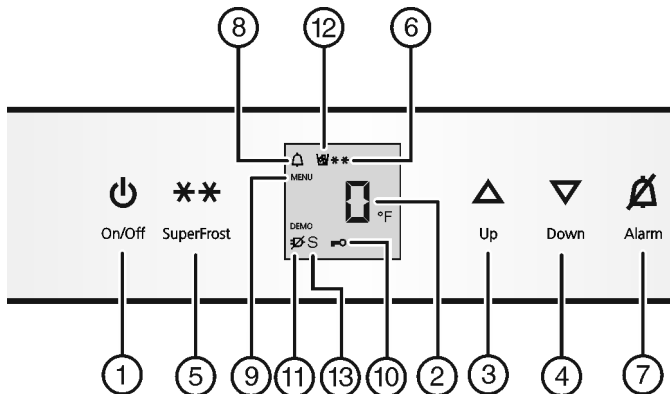

Fig. 2
- ▶ Press On/Off button Fig. 2 (1).
- ▶ Activate setting mode: Press SuperFrost button Fig. 2 (5) for about 5 seconds.
- ▷ The Menu symbol Fig. 2 (9) lights up.
- ▶ Using Up button Fig. 2 (3) / Down button Fig. 2 (4) select °.
- ▶ To confirm: Briefly press SuperFrost button Fig. 2 (5).
- ▶ Using Up button Fig. 2 (3) / Down button Fig. 2 (4) select °F or °C.
- ▶ To exit setting mode: Press On/Off button Fig. 2 (1).
- ▶ Activate setting mode: press and hold the SuperFrost button *Fig. 2 (5)* for approximately 5 s.
- ▷ The Menu symbol *Fig. 2 (9)* lights up.
- ▶ Using the Up button *Fig. 2 (3)* or Down button *Fig. 2 (4)*, select **c**.
- ▶ Press the SuperFrost button *Fig. 2 (5)* briefly to confirm. When **c1** is shown on the display:
- ▶ To switch on the child-proof lock, press the SuperFrost button *Fig. 2 (5)* briefly.
- ▷ The Child safety symbol *Fig. 2 (10)* lights up. **c** flashes on the display. When **c0** is shown on the display:
- ▶ To switch off the child-proof lock, press the SuperFrost button *Fig. 2 (5)* briefly.
- ▷ The Child safety symbol *Fig. 2 (10)* goes out. **c** flashes on the display.
- ▶ Deactivate setting mode: press the On/Off button *Fig. 2 (1)*.
- ▶ Press Alarm button *Fig. 2 (7)*.
At the same time, the Alarm symbol *Fig. 2 (8)* will flash.
The audible warning automatically ceases, the Alarm symbol *Fig. 2 (8)* goes out, and the temperature display
- ▶ To activate setting mode: Press and hold the SuperFrost button *Fig. 2 (5)* for approx. 5 s.
- ▶ To access the Sabbath mode function: Briefly press the SuperFrost button *Fig. 2 (5)*.